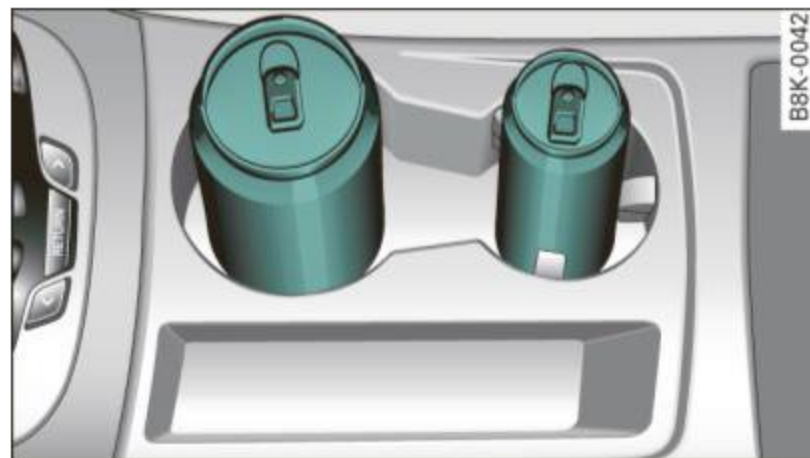

Fig. 99 Center console: Front beverage holders
- You can accommodate two beverages in this storage ⇒ fig. 99.